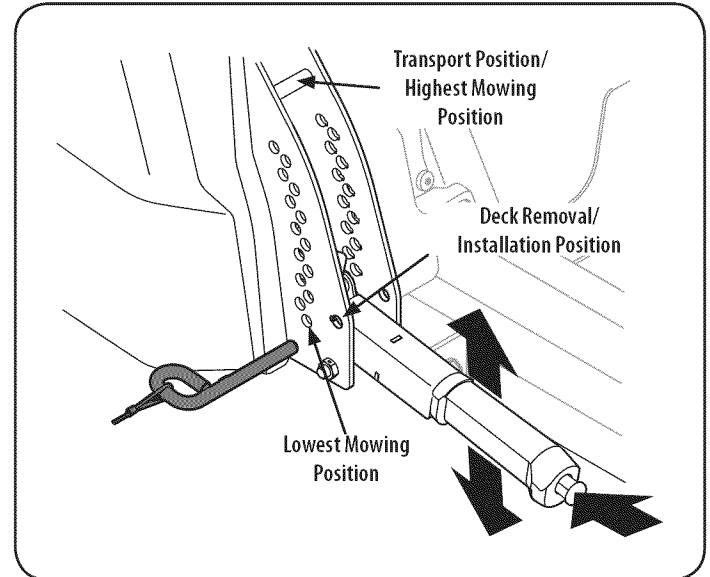

Figure 24
- a. Using the deck lift handle, raise the deck to the position that provides the most horizontal run of the belt between the deck idler pulleys and the PTO pulley on the bottom of the engine. See Figure 24.
- d. Lower the deck into the deck removal/installation position  using the deck lift handle. See Figure 24.
1. Place the deck lift handle in the highest mowing position See Figure 24.